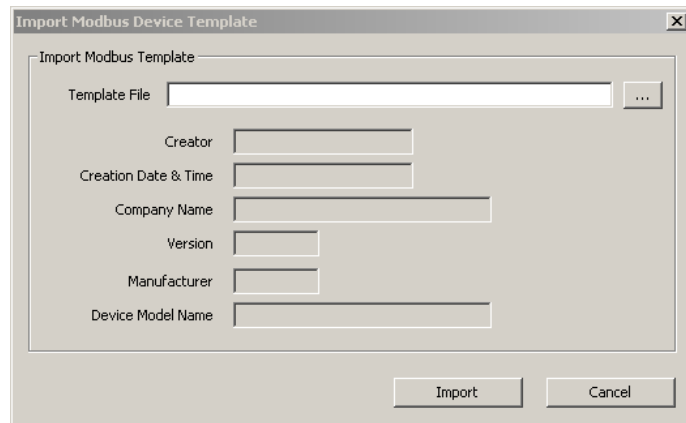

Figure 143 Import Modbus Device Template dialog.
3. Click on the **Create From Template** button. This opens the **Import Modbus Device Template** dialog shown in Figure 143.
3. Click on the **Create with DP** button. This opens the **Import Modbus Device Template** dialog shown in Figure 143.